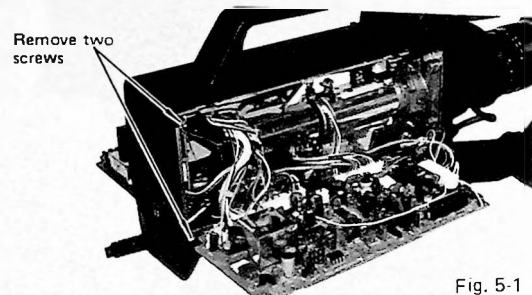

Fig. 5-1
- Remove the four screws holding the rear cover and remove the panel. (Fig. 5-1 and 2)